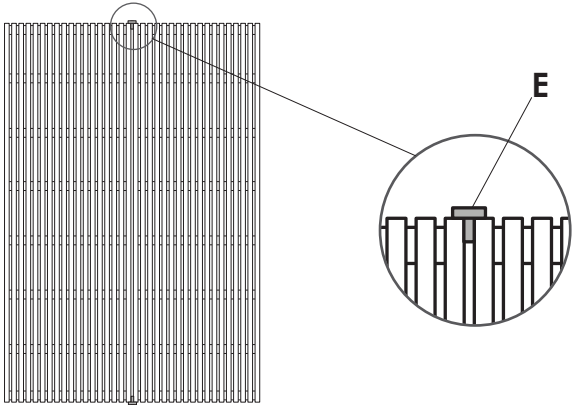

figure 1. Installing 2 or more panels
NOTE: For multiple wall panels hung side by side, use the "T" gap guide (E) to ensure that the correct alignment between 2 panels that are hung alongside one another. See Figure 1. Place the "T" guide at the top and in between the panels so they are at "gap" distance between them, so as to give the panels a continuous slatted appearance.